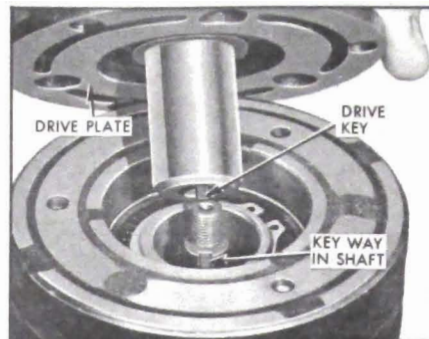

Figure 11-98—Positioning Drive Plate on Shaft
1. Insert square drive key into hub of drive plate so it projects approximately 3/16" out of end of keyway. See Figure 11-98.
2. Line up key in hub with keyway in shaft and position drive plate on shaft. See Figure 11-98.